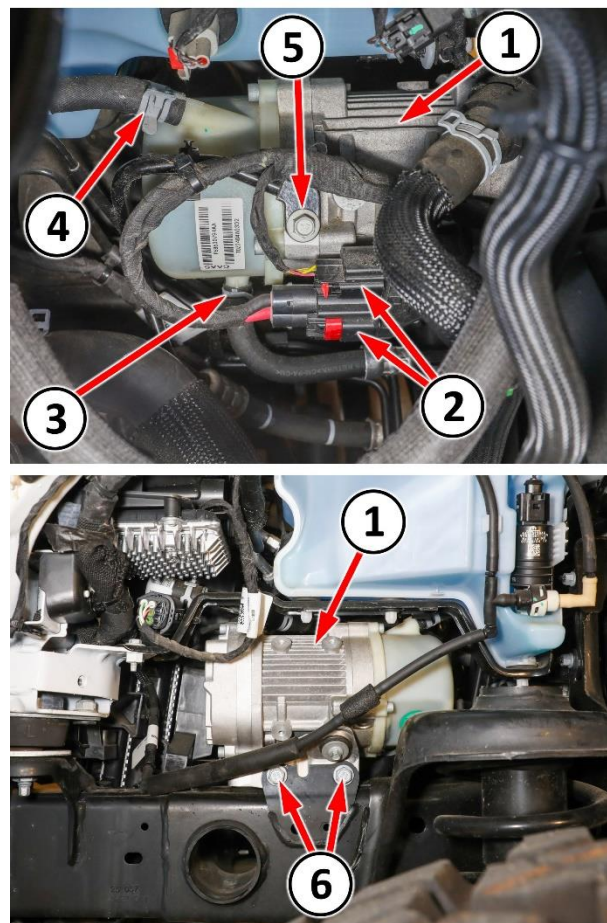

Figure C11 – EHPS Pump
35. Obtain the **NEW** EHPS pump and position it in the vehicle (Figure C11).
36. Install the EHPS pump frame bracket bolts and tighten to 29 N·m (21 Ft. Lbs.) (Figure C11).
37. Connect the supply hose to the EHPS pump and secure with the hose clamp (Figure C11).
38. Connect the return hose to the EHPS pump and secure with the hose clamp (Figure C11).
39. Install the EHPS pressure pipe to the EHPS pump then install the EHPS pump pressure pipe bolt (Figure C11). Tighten the pressure pipe bolt to: